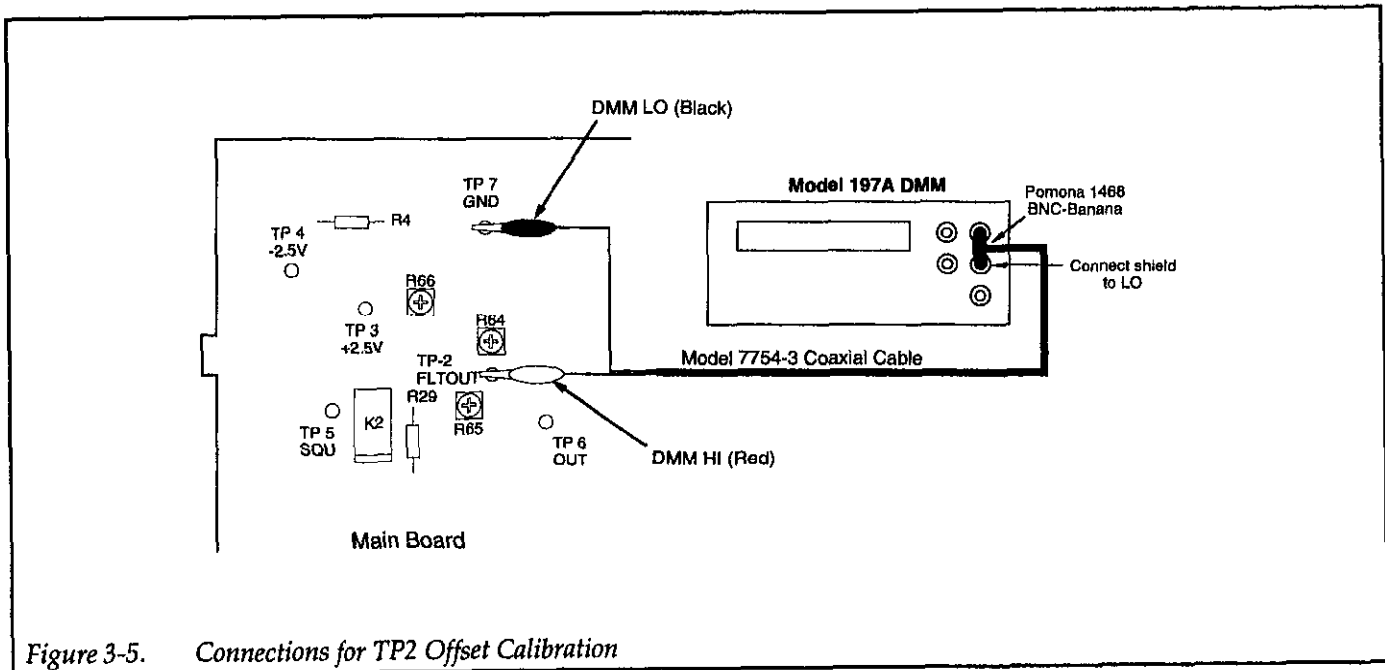

Figure 3-5. Connections for TP2 Offset Calibration
1. Connect the DMM to TP2 and TP7, as shown in Figure 3-5.